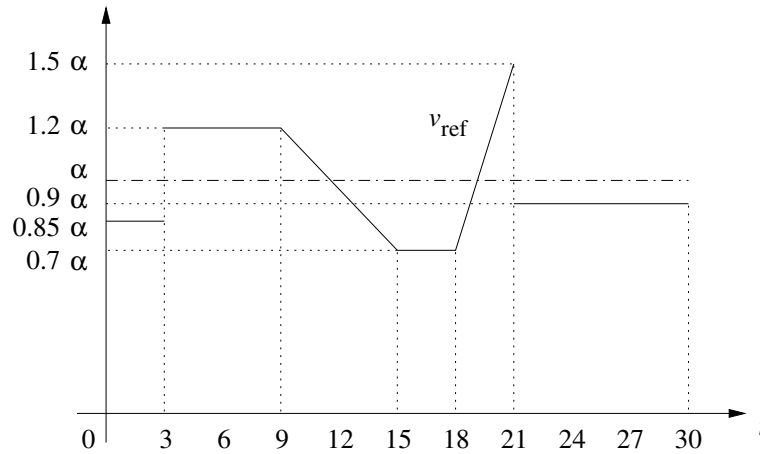

Figure 3: The reference speed signal to be used.
Step 2.9: Assume $\lambda = 0.1$ (in general, an appropriate value of λ is determined by taking into account the nominal values of J_{track} and J_{input} and by some tuning and iteration). Consider two combinations of N_p and N_c : first the combination $(N_{p,1}, N_{c,1}) = (5, 4)$ which is the same for all groups, and another combination $(N_{p,2}, N_{c,2})$ that you may select yourself with $N_{p,i} \in \{7, 8, 9, 10\}$ and $1 < N_{c,i} < N_{p,i}$. For each combination run your program for the time interval $[0, T_{\text{end}}]$ with $T_{\text{end}} = 25$, for $v(0) = 0.925\alpha$ where α is the value found in Step 2.2, and for the speed reference signal v_{ref} which defined as follows (see also Figure 3):